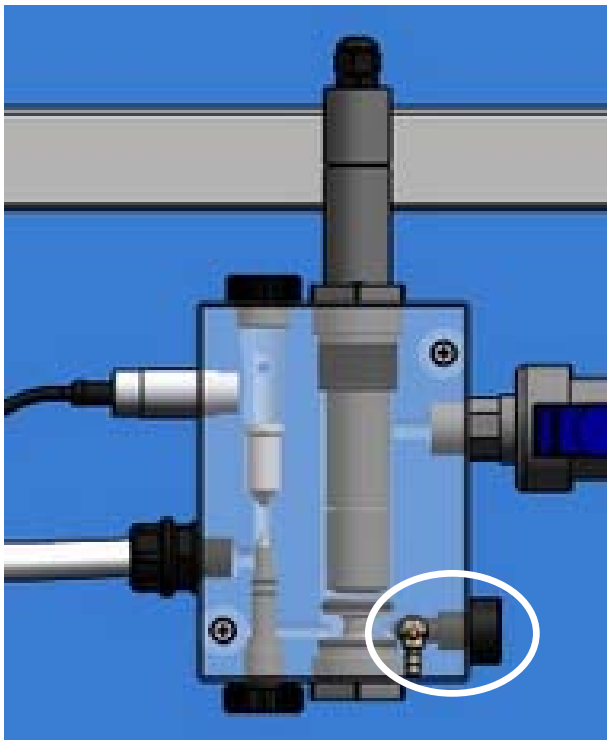

Fig.13
1. To take a water sample from the drain of the probe holder, turn the knob at the bottom right as shown in Fig. 13.